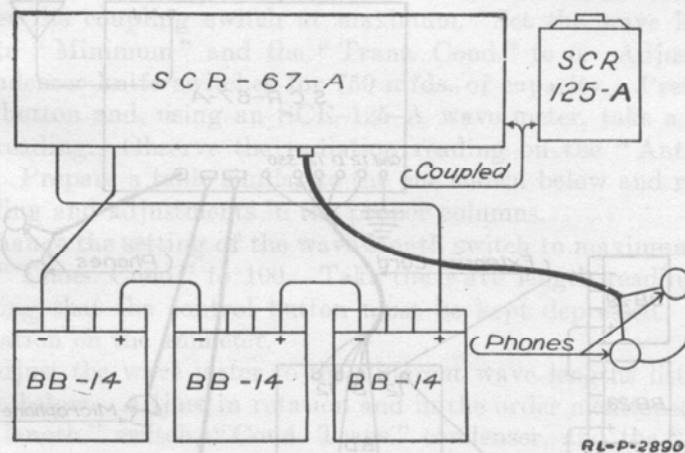

Fig. 82.—Method of coupling the SCR-125-A wave meter to the receiving circuit of the SCR-67-A set.
5. Insert three VT-1 vacuum tubes in the receiving sockets. Insert and connect properly two BA-2 batteries. Close up the front panel of the set and fasten the hooks at the sides. Connect a 12-volt storage battery to the +12 and -12 binding posts. (See Fig. 82.) Throw the three-position switch to "Receive only."